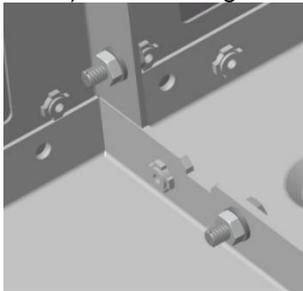
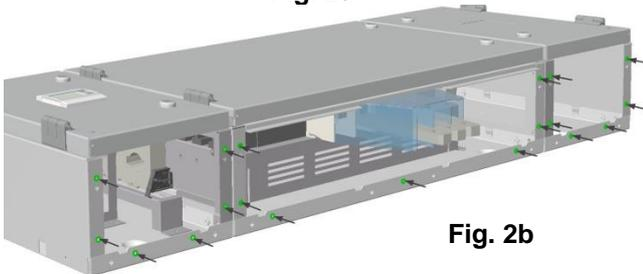

Fig. 2a
Fig. 2b
- Attach the Add-On unit to the panelboard using M6 Nuts, bolts and contact washers supplied (19 Fixing locations). Refer to Fig. 2a and Fig. 2b.